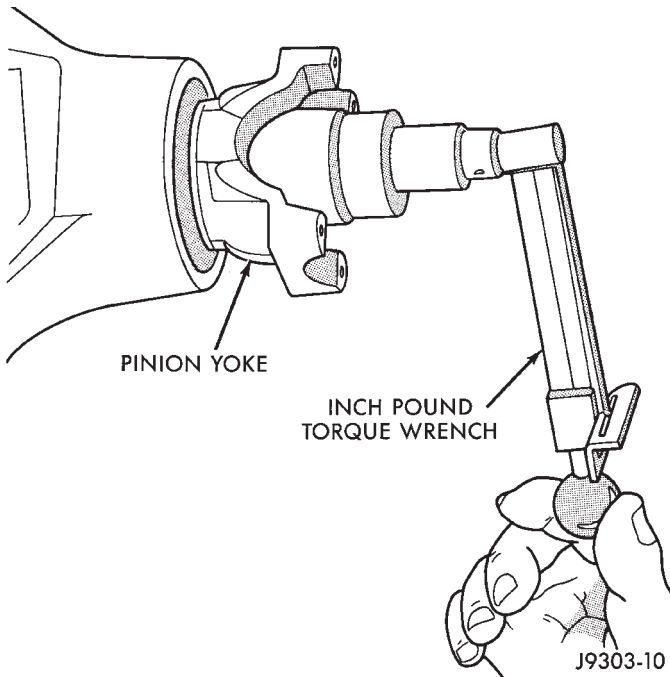

Fig. 10 Check Pinion Rotation Torque
(3) Install the pinion washer and a new nut on the pinion gear. **Tighten the nut only enough to remove the shaft end play.**
(4) Tighten pinion nut to 217 N·m (160 ft. lbs.).
(5) Rotate the pinion shaft using a (in. lbs.) torque wrench. Rotating torque should be equal to the reading recorded during removal, plus an additional 0.56 N·m (5 in. lbs.) (Fig. 10).